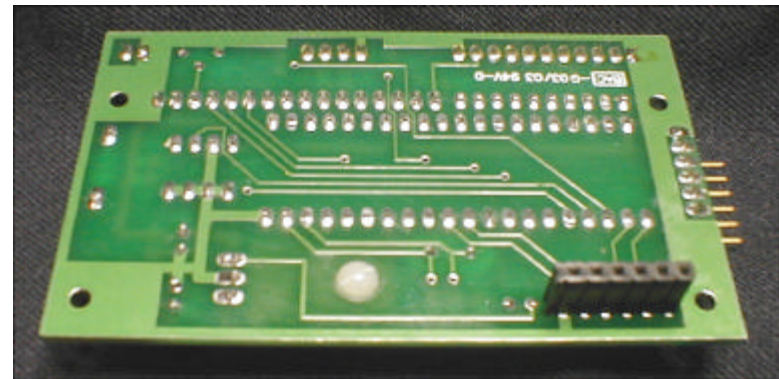

Figure 6. Bottom view of CPU board showing JP4 installed.
- [] JP4 6-pin single in-line **female** header connector, install on **BOTTOM** of board (See Figure 6)